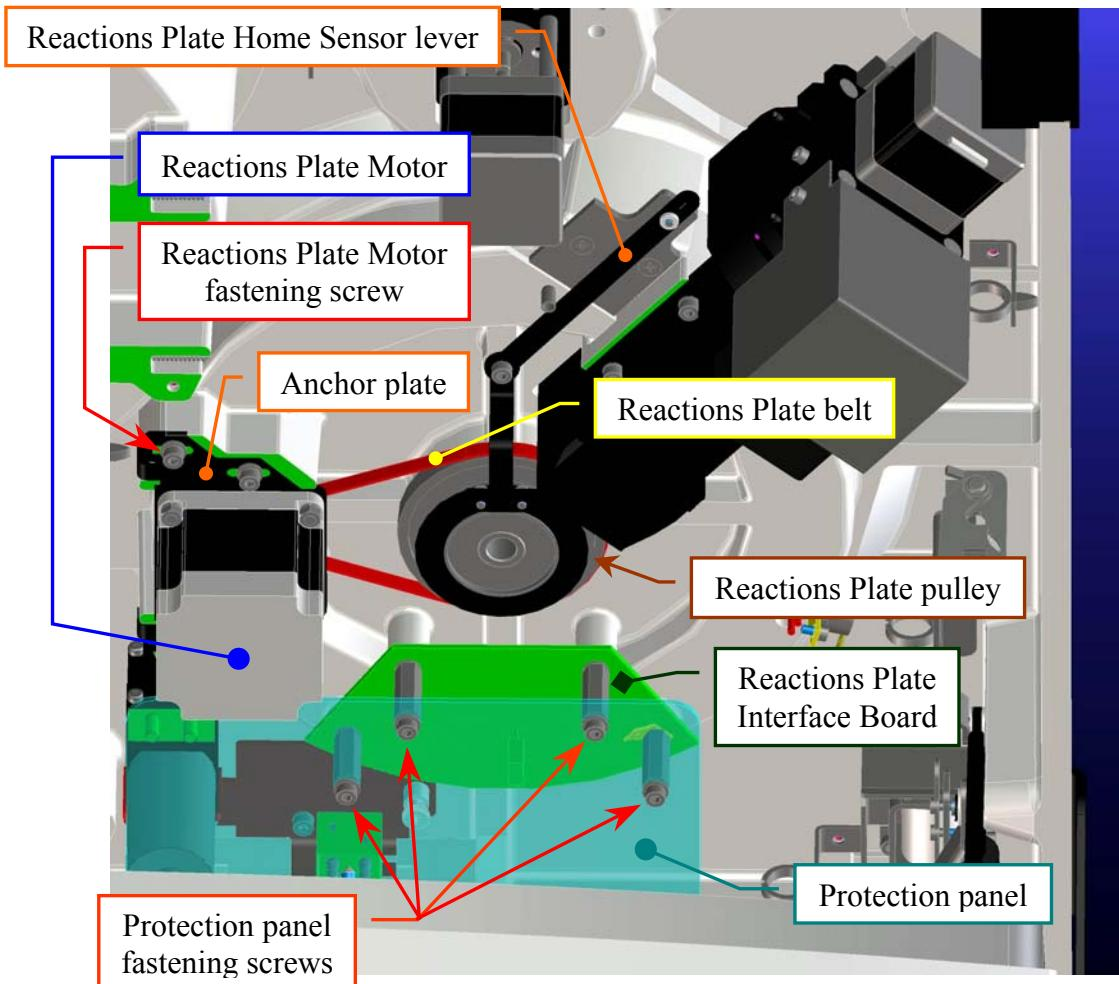

Fig. 109 – Reactions Plate Assy (bottom view)
2. Unscrew the four fastening screws of the protection panel (**Fig. 109**) and take out it from its place.
4. Unscrew the four fastening screws of the Reactions Plate Motor (**Fig. 109**).
11. Position the Reactions Plate Motor on its housing with the side of the motor connector oriented towards the Reactions Plate Interface Board (**Fig. 109**) and with the anchor plate springs placed in the relative slits, then tighten slightly its four fastening screws.
14. Tighten the four fastening screws of the Reactions Plate Motor (**Fig. 109**).
16. Replace the protection panel on its place - as showed in **Fig. 109** - unscrewing its four fastening screws in the correspondent spacing bars.
11. Replace the protection panel on its place - as showed in **Fig. 109** - unscrewing its four fastening screws in the correspondent spacing bars.
2. Loosen the four fastening screws of the Reactions Plate Motor (**Fig. 109**), push the motor toward the plate pulley, then tighten only one fastening screw of the motor.
8. Tighten the four fastening screws of the Reactions Plate Motor (**Fig. 109**).